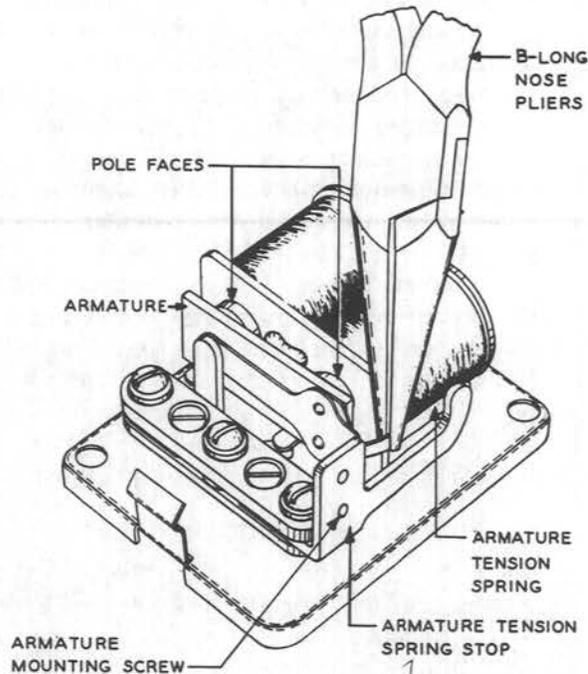

Fig. 3—Method of Tensioning Armature Tension Spring
(2) Where connections are loose, tighten them using the 3-inch C screwdriver.
(3) Resolder connections where necessary.
(4) To change the pitch of the sound, increase or decrease the tension of the armature tension spring. Decrease the pitch by decreasing the tension, and increase the pitch by increasing the tension. To do this, place the B long-nose pliers on the spring as shown in Fig. 3 and adjust the spring away from the armature to increase the tension and toward the armature to decrease the tension.
- (5) If the armature travel is satisfactory, the failure may be due to excessive tension of the armature tension spring. To correct, apply the B long-nose pliers to the spring as shown in Fig. 3 and adjust the spring in a direction toward the armature. After making this adjustment, check that the armature tension spring rests against the armature tension spring stop when the bell or buzzer is in the unoperated position and that the cover clears the stop.
- (6) **7G Buzzer:** If the armature gap is insufficient, proceed as covered in (4).
- (2) If the armature travel is insufficient, adjust the back contact spring slightly with the B long-nose pliers.
- (3) To correct the tension of the armature tension spring, apply the B long-nose pliers near the bend in the spring and adjust the spring away from the armature as shown in Fig. 3. Do not adjust the armature tension spring stop when making this adjustment as it may adversely affect the operation of the bell or buzzer.
- (4) If the follow of the armature spring is excessive, adjust the spring as required by applying the 363 spring adjuster close to